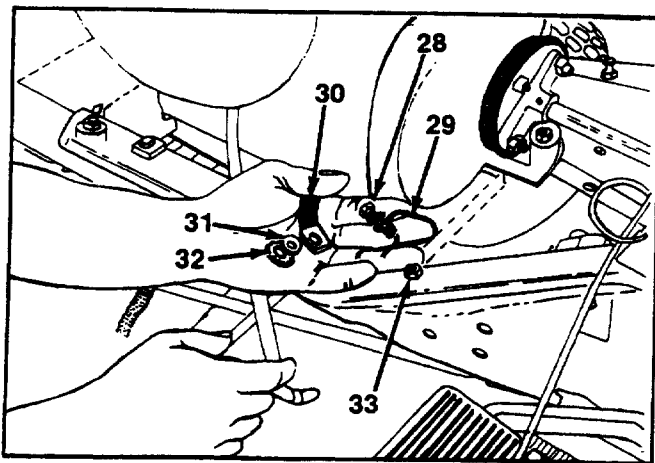

FIGURE 17.
18. Upon reassembly of heat shield to chassis, be sure wire on left hand side of chassis are properly grounded at weld nut. See figure 17.